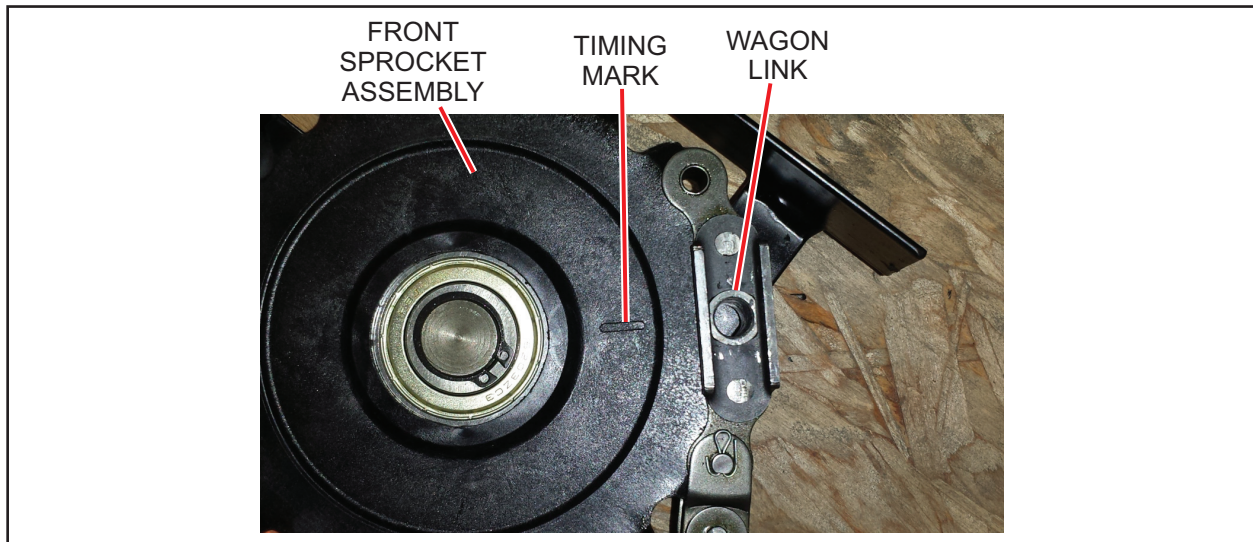
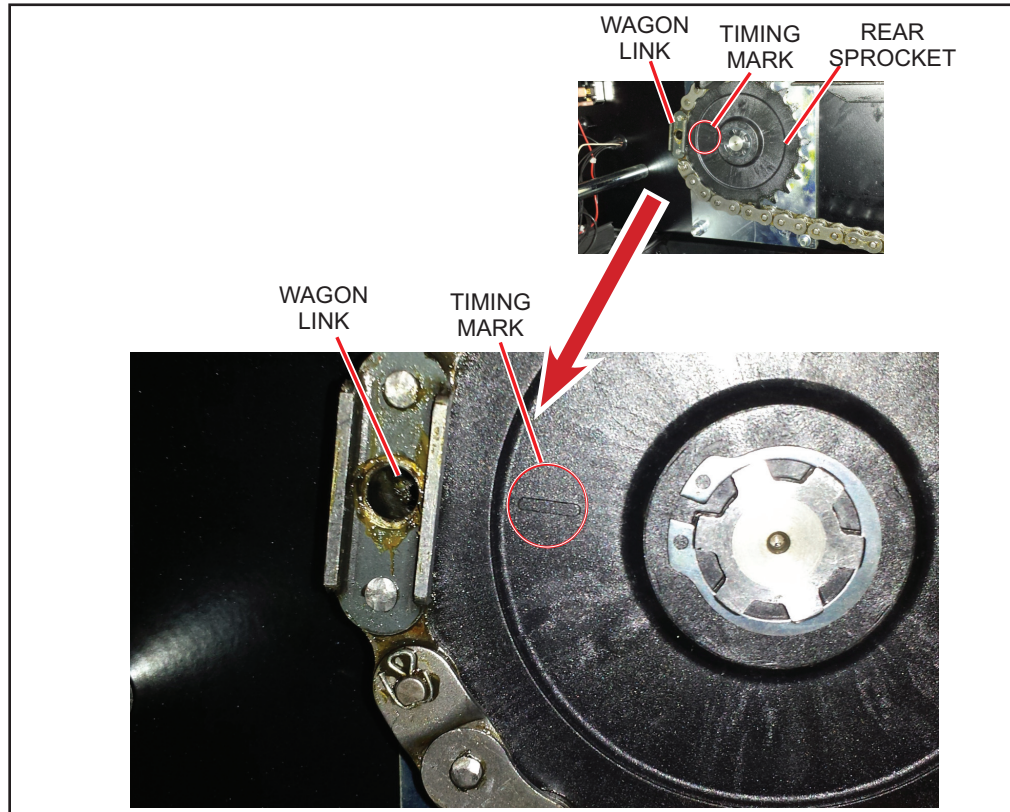

Figure 12
Figure 14
CRITICAL: Rotate the chain around the sprocket to make sure that the wagon link aligns with the timing mark on the sprocket as it passes through sprocket. Refer to Figure 12.
- Make sure the sprocket timing mark on the rear drive sprocket on both sides of the machine are facing toward the back of the machine. Refer to *Figure 14*.
- Align the wagon link of the chain in the notch indicated by the timing mark on the rear sprocket. Refer to *Figure 14*.
CRITICAL: Make sure the wagon link and rear gear timing mark are aligned properly on both drive chains. Refer to Figure 14.
31. Using the drive pulley, rotate the string wagon at least one complete rotation to make sure it moves smoothly and to verify the wagon attaching link aligns with the timing marks on all 4 drive sprockets as the wagon rotates around the sprocket. Refer to *Figure 12 and Figure 14*.